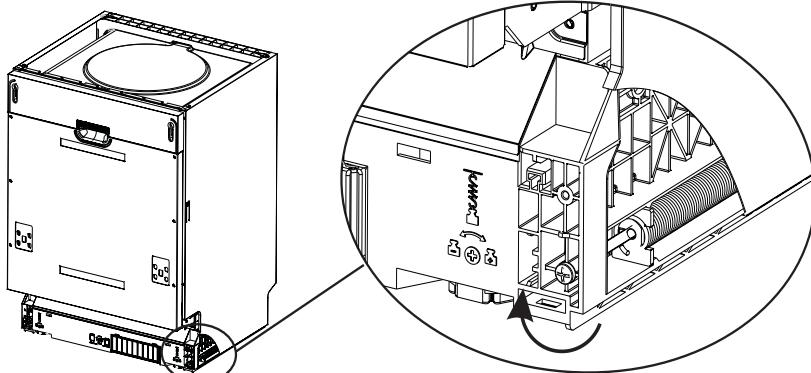

Figure 5 - Tension adjustment of the door spring
2. Adjust **the tension of the door springs** (*Figure 5*) by using an phillips screwdriver turning in a clockwise motion to tighten the left and right door springs. Failure to do this could cause damage to your dishwasher.
- The door springs are set at the factory to the proper tension for the outer door. If aesthetic wooden panel are installed, you will have to adjust the door spring tension. Rotate the adjusting screw to drive the adjustor to strain or relax the steel cable (see figure 5).